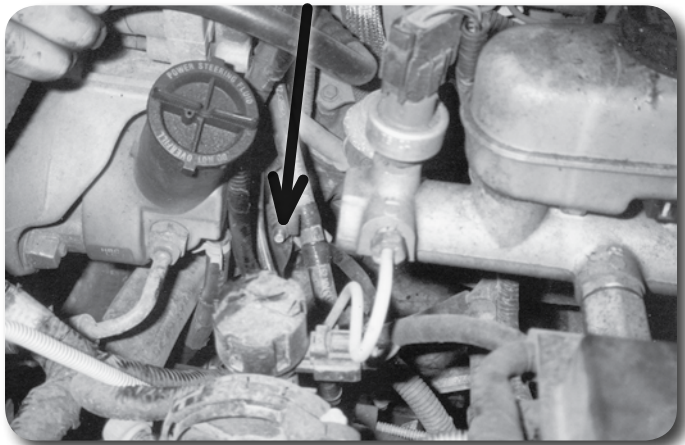

Figure 10
22. Locate the wire loom that runs from the battery to the driver's side of the engine. It is attached to the engine by a bracket mounted to a stud **Figure 10**. Remove the bracket from the stud and the wire from the bracket. The bracket will be relocated on the wire after lifting.
50. Reattach the wire loom bracket that was previously removed to the wire loom. Install the bracket on the original mounting stud on the driver's side of the engine **Figure 10** using the stock nut.